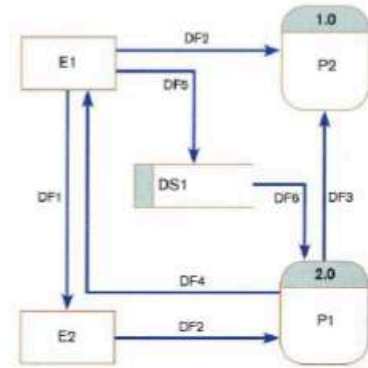

Figure 1: DFD for Question 8a
a) Consider the DFD in Figure 1. List and justify THREE (3) errors (rule violations) on this DFD.